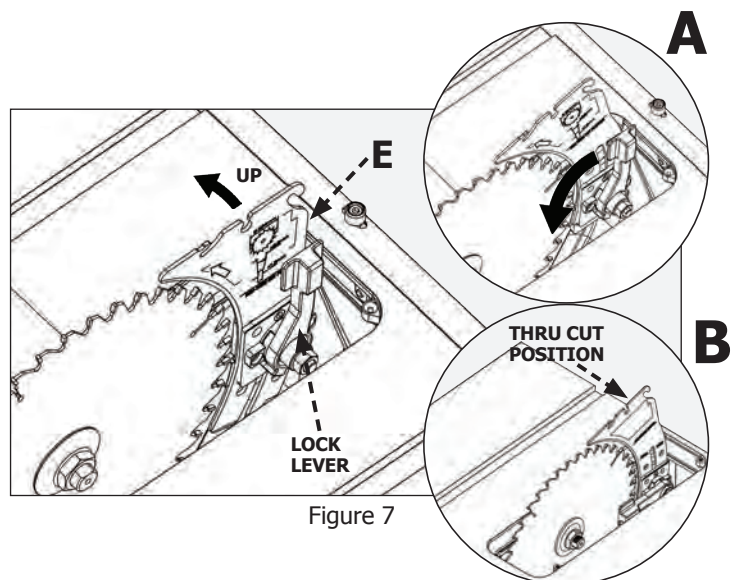

Figure 7
- The riving knife must be securely positioned in the "up" or "thru cut" position when using the anti-kickback pawls and blade guard. (Fig. 7).